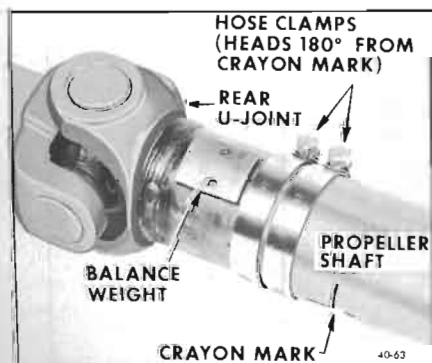

Figure 40-63—Balance Hose Clamps in Place
3. Install two Whittek type hose clamps that have a range of 2-1/2" - 3" on propeller shaft as shown in Figure 40-63. Position each clamp with heads 180° from crayon marking. Tighten clamps.